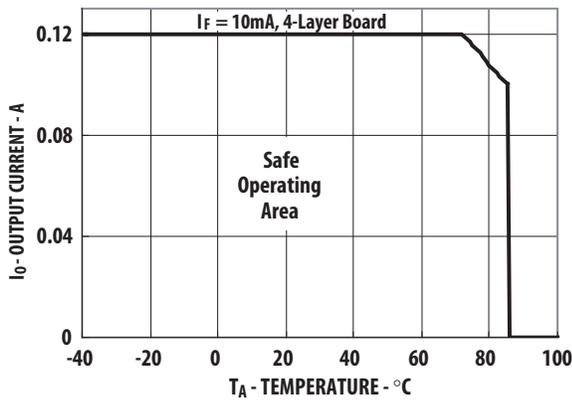

Figure 1. Maximum Output Current Rating vs Ambient Temperature (ASSR-4110-003E)
- For derating, refer to Figure 1, 2, 3 and 4.
Figure 1, 2, 3 and 4 specify the maximum average output current allowable for a given ambient temperature. The maximum allowable output current and power dissipation are related by the expression $R_{ss} = P_o(\text{max}) / (I_o(\text{max}))^2$ from which R_{ss} can be calculated. Staying within the safe area assures that the steady state MOSFET junction temperature remains less than 125°C .